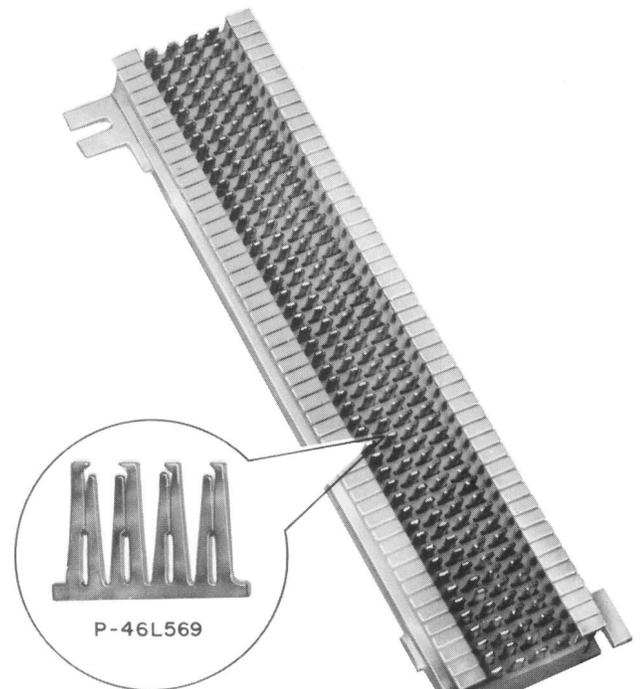

Fig. 7—66M1-25 Connecting Block
2.04 The 66M1-25 connecting block (Fig. 7) is identical in construction to the 66M1-50 connecting block except that each row of terminals consists of one P-46L569 connector with four interconnected terminals. This block is molded from a grey fire-retardant plastic and can be easily distinguished from the white 66M1-50 connecting block.